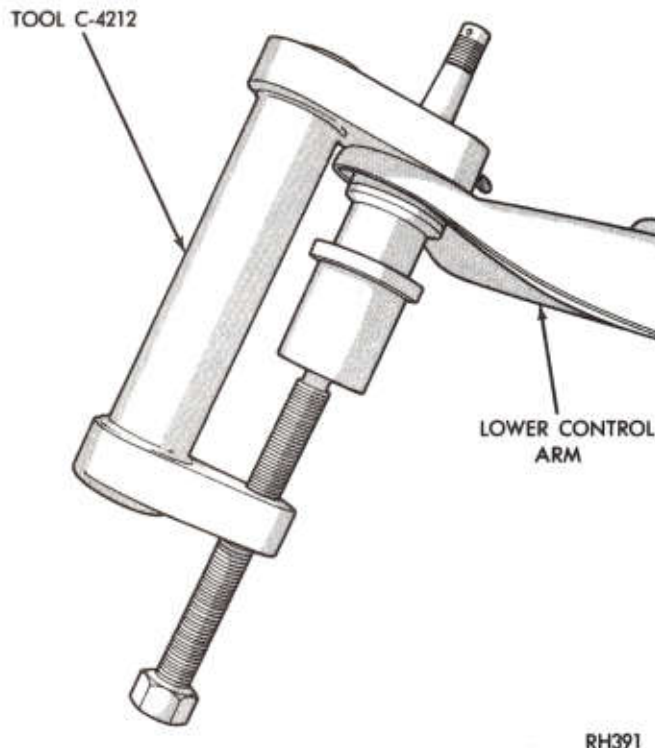

Fig. 6—Installing Lower Ball Joint
(1) Press new ball joint into lower control arm using assembled Tool C-4212 (Fig. 6).
(2) Place a new seal over ball joint (if necessary), press retainer portion of seal down on ball joint housing, with a suitable size socket, until it is securely locked in position.